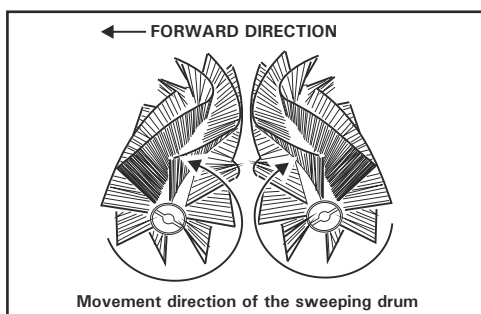

Fig. 50
- **Recommendation:** When replacing the rear sweeping drum, changing the front sweeping drum on the rear side (Fig. 1) is recommended, then inserting the new sweeping drum forwards, **V direction must be followed!** (Fig. 50)
- Push the sweeping drum into the sweeping tunnel, The direction of rotation of the sweeping drums must be observed. (Fig. 50)